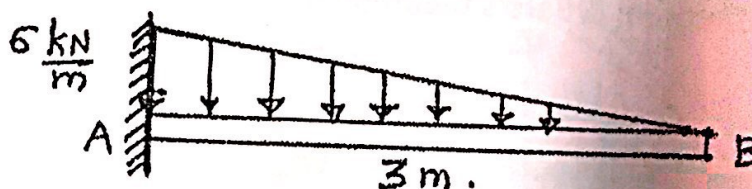

Fig. 10
- (c) Using double integration method, determine the slope at the free end (B) of the cantilever beam (Fig. 10).